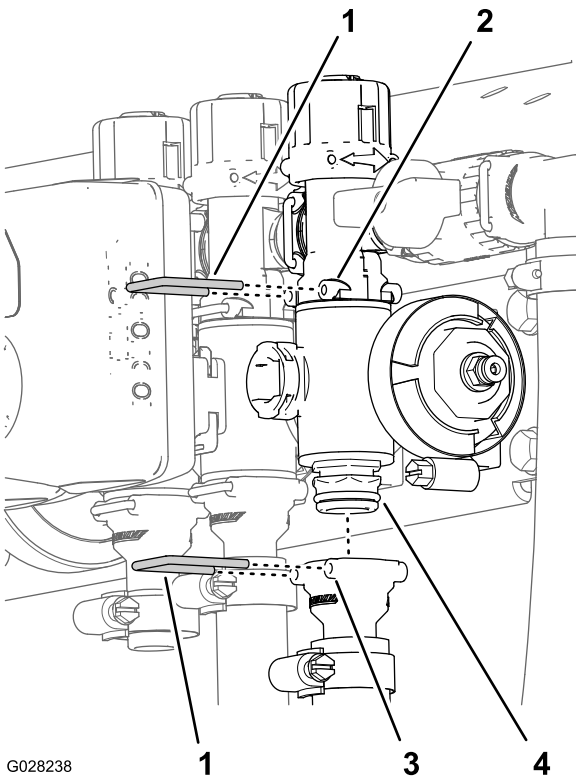

Figure 115
2. Remove the retainer that secures the section valve manifold to the bypass fitting (Figure 115).